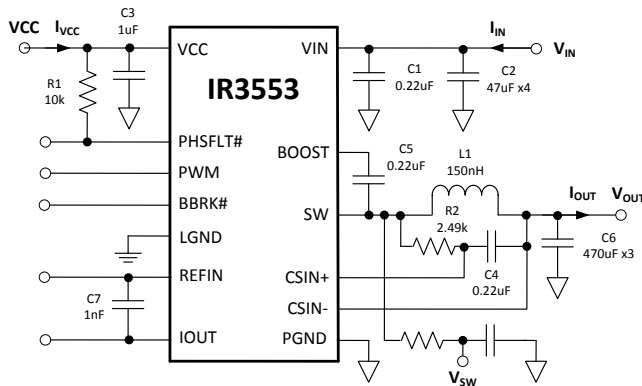

Figure 32: IR3553 Power Loss Measurement
Circuit of Figure 32, $V_{IN}=12V$, $V_{OUT}=1.2V$, $f_{SW} = 400kHz$, $L=150nH$ (0.29mΩ), $VCC=7V$, $T_{AMBIENT} = 25^{\circ}C$, no heat sink, no air flow, 8-layer PCB board of 3.7" (L) x 2.6" (W), no PWM controller loss, no inductor loss, unless specified otherwise.
Circuit of Figure 32, $V_{IN}=12V$, $V_{OUT}=1.2V$, $f_{SW} = 400kHz$, $L=150nH$ (0.29mΩ), $V_{CC}=7V$, $T_{AMBIENT} = 25^{\circ}C$, no heat sink, no air flow, 8-layer PCB board of 3.7" (L) x 2.6" (W), no PWM controller loss, no inductor loss, unless specified otherwise.
The single-phase IR3553 efficiency and power loss measurement circuit is shown in Figure 32.